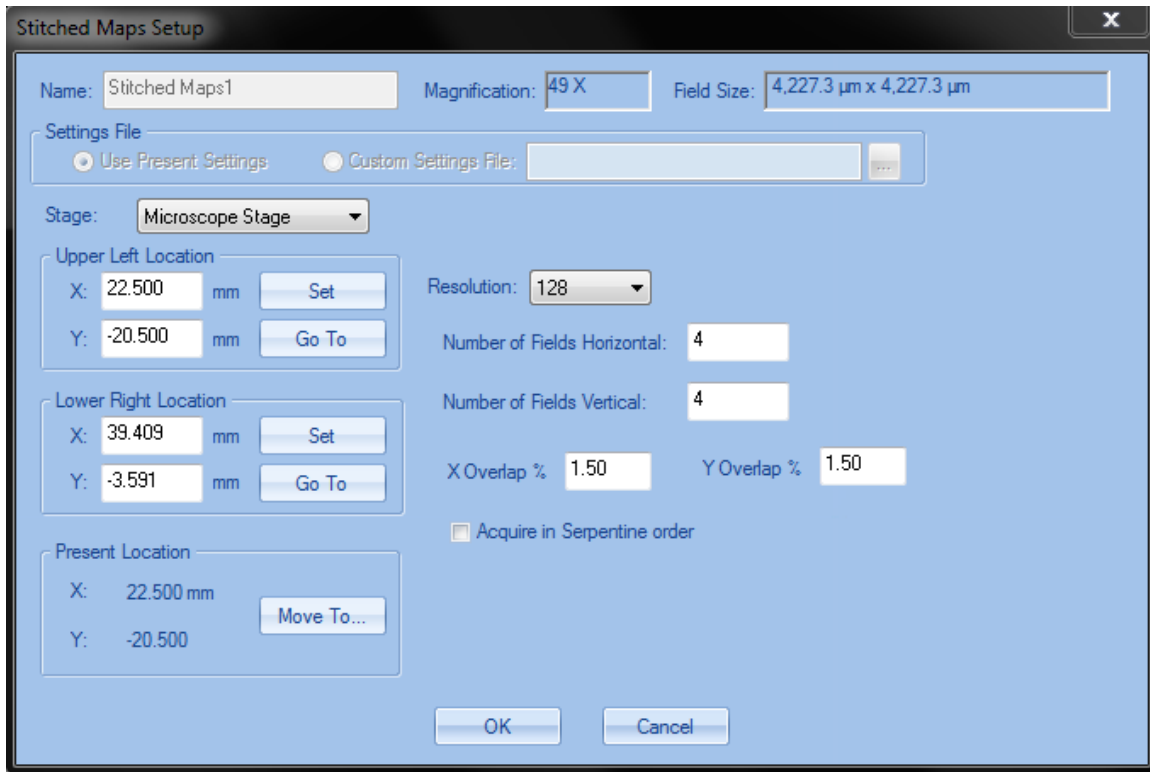

Figure EDS1. Stitched maps and images setup window.
3. A setup window will appear (Figure EDS1).